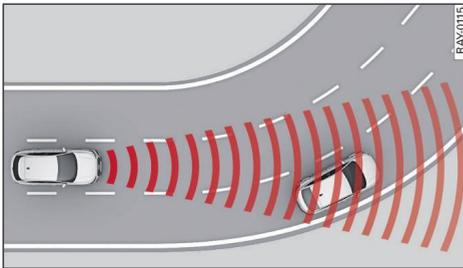

Fig. 95 Example: Driving into a bend
- When driving into a bend ⇒ *Fig. 95* and driving out of a bend, the system may react to a vehicle travelling in the next lane and therefore brake the vehicle. You can override this by accelerating briefly.